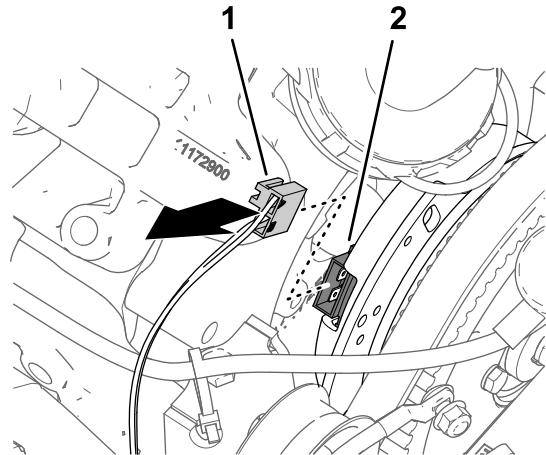

Figure 166
1. Disconnect the 2-socket connector of the machine wire harness labeled SPRAY PUMP COIL from the 2-pin connector of the alternator (Figure 166).